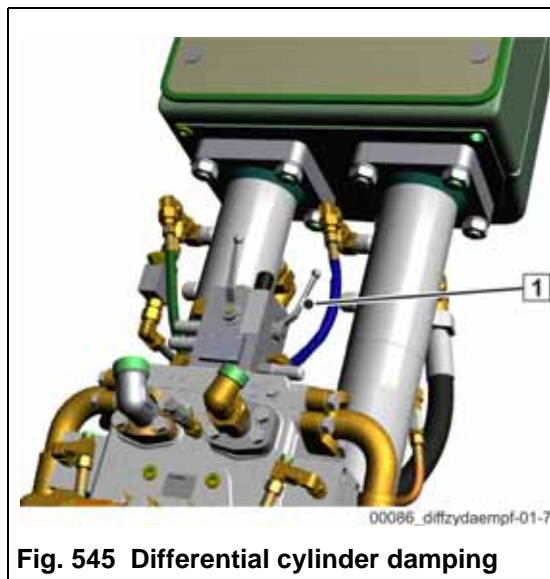

Fig. 545 Differential cylinder damping
The second ball valve (1) (**Fig. 545**) provides extra damping for the differential cylinders in addition to the MPS (Mini Pause Switch).